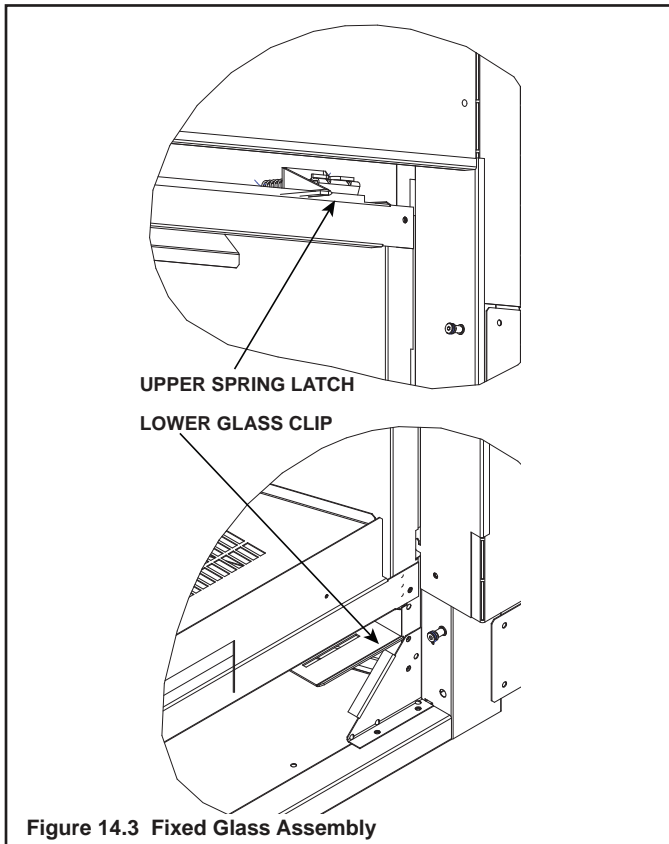

Figure 14.3 Fixed Glass Assembly
4. Put pressure on the glass as you allow the glass assembly to drop into the two lower glass clips. See Figure 14.3.